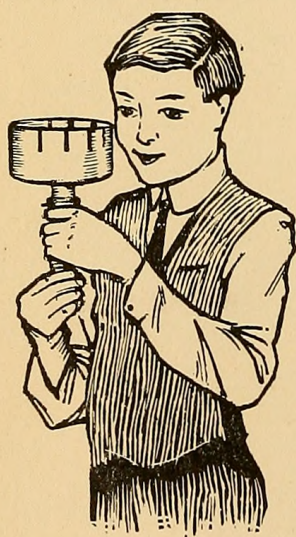

FIG. 350. — A Moving-picture Machine.
**A Simple Machine** such as shown in Fig. 350. This toy consists of a cardboard cylinder with slots cut in its
To operate the Toy, hold it by the middle spool with one hand and make the cylinder revolve by turning the bottom spool with the other hand (Fig. 350).